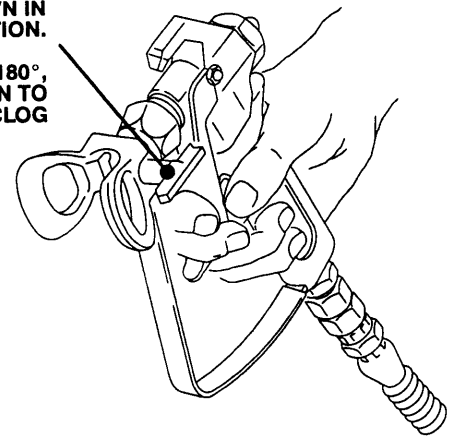

Fig 9-4
The tip guard alerts you to the risk and helps prevent placing any part of the body close to the spray tip. The tip guard also adjusts the vertical or horizontal spray pattern. See page 11. The tip guard holds a reversing spray tip. The tip is in the spraying position when the tip handle points forward. See Fig 9-4.
1. Release the gun trigger. Engage the gun safety latch. Rotate the RAC IV tip handle 180°. See Fig 9-4.
5. **Disengage the gun safety latch.** See Fig 9-4.